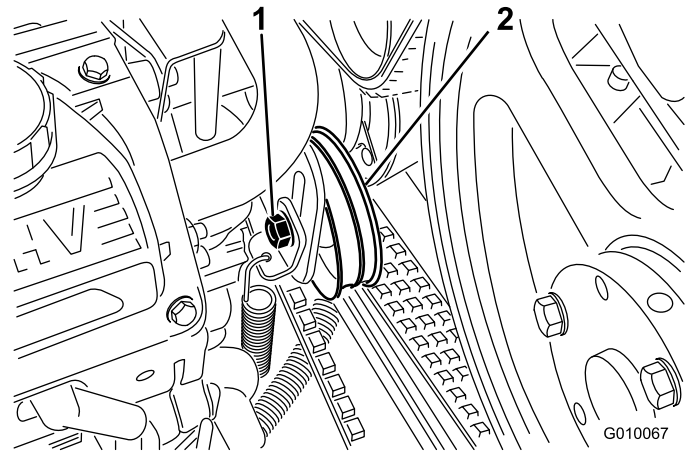

Figure 59
4. Loosen the pump belt idler bolt just enough to allow movement within the adjustment slot (Figure 59).